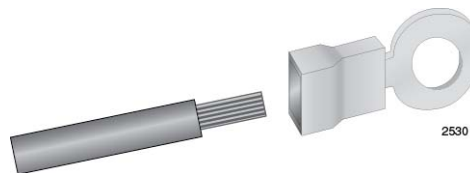

Figure 116. Attaching the Stranded Grounding Wire to the Grounding Terminal
2. Insert the grounding wire into the grounding terminal provided with the power supply and use a crimping tool to secure it to the grounding terminal. See Figure 116.